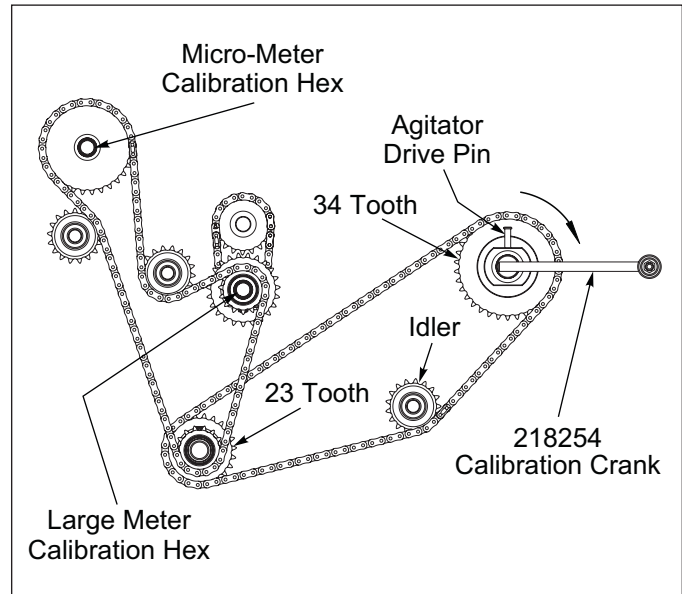
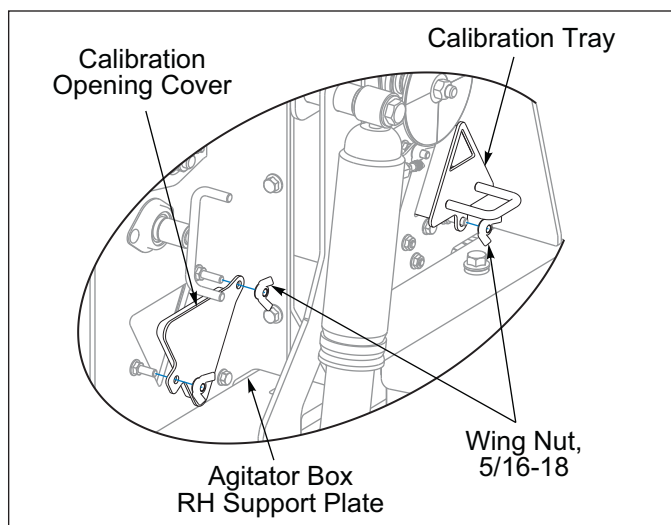

Figure 3-26: Agitator Box Calibration
Figure 3-27: Calibration Tray Storage Position - Agitator Box
4. Remove Agitator Drive Pin. **See Figure 3-26.**
5. Turn Transmission Agitator Shaft Calibration Hex 456 revolutions clockwise (CW) with provided Crank. 76 turns may be used if results are adjusted as stated in Step 6.
8. Place Calibration Tray back in storage position. Secure with 5/16-18 Wing Nut. **See Figure 3-27.** Re-install Calibration Opening Cover over the opening in the Agitator Box RH Support Plate with 5/16-18 Wing Nuts.